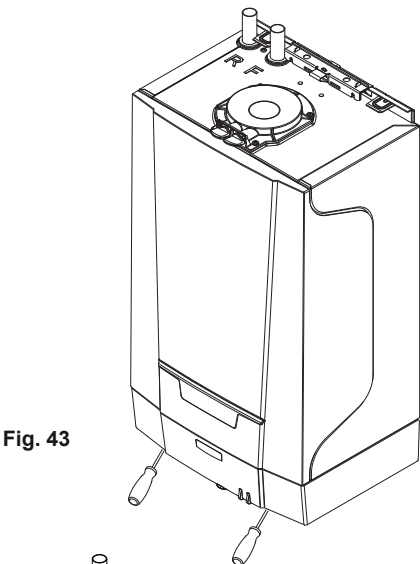

Fig. 43
1. Unscrew the two screws located on the lower front panel (Fig. 43).